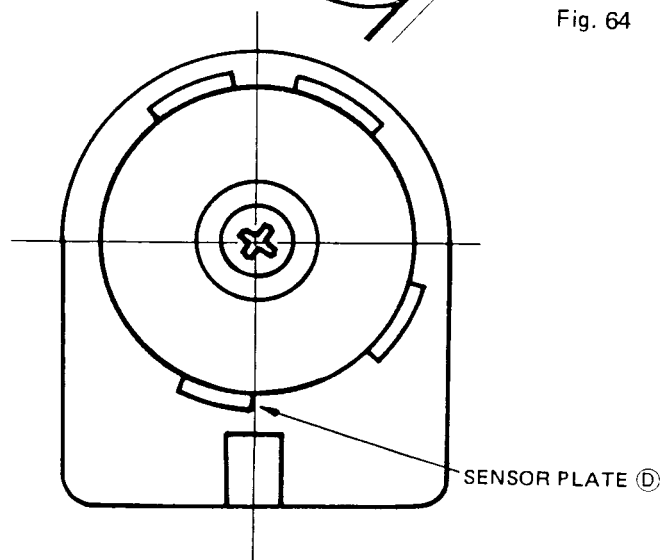

Fig. 65
10. The trimmer and tension releasing mechanisms return to their rest positions upon completion of the trimming operation and the machine stops in the upper needle position when the sensor plate (D) reaches a point shown in Fig. 65.